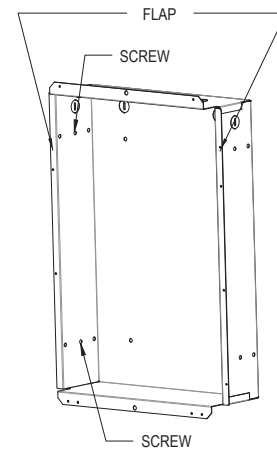

FIG. 7
5. Insert the frame into the opening, press the flap against the wall. Screw in wood screws (not included) in the left and the right studs, through holes provided for this purpose (see figure 7).